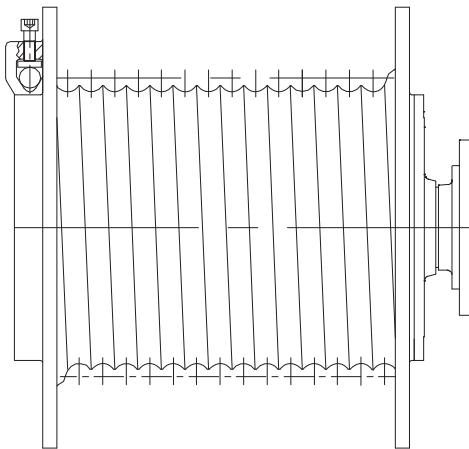
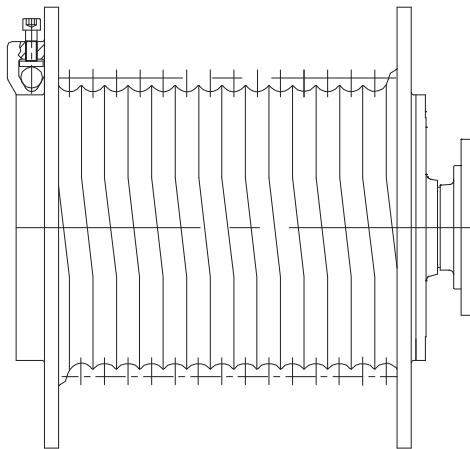

图1/ Figure 1
图2/ Figure 2
- 1) 标准沟槽卷筒(图1)和特殊沟槽卷筒(图2)。
- 2) 沟槽方向分左旋和右旋,默认为右旋(图1)。
- 1) Drum with normal grooves (figure 1) and with special grooves (figure 2).
- 2) Rope groove has right hand lead and left hand. The default lead is right hand (figure 1).